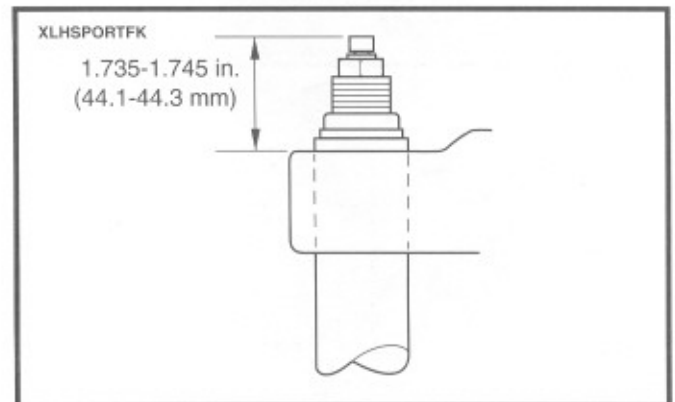

Figure 2-75.
1. Insert fork sides through front fork lower and upper brackets. See Figure 2-75. Position slider tubes so that top of each tube cap extends 1.735-1.745 in. (44.1-44.3 mm) above top surface of front fork upper bracket.